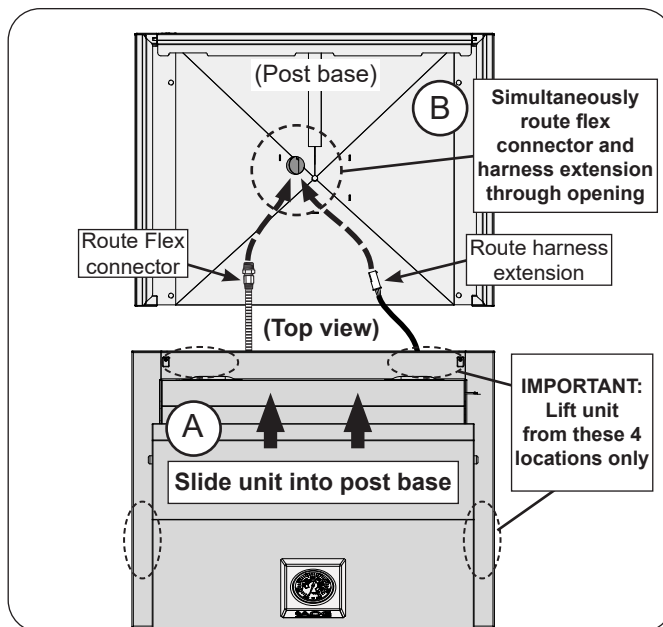

Fig. 15-1 Install grill to post base
DO NOT lift the unit from the front panel when installing. Lift only from the designated areas shown in Fig. 15-1.
1. Carefully lift and place the rear end of the appliance over the post base opening and begin to slide the unit inward (Fig. 15-1, A). **DO NOT SLIDE THE UNIT IN COMPLETELY!** **While installing:**
- be sure to simultaneously route the flex connector and wire harness extension (if applicable) down through the large circular opening on the upper portion of the post base. See Fig. 15-1, B.